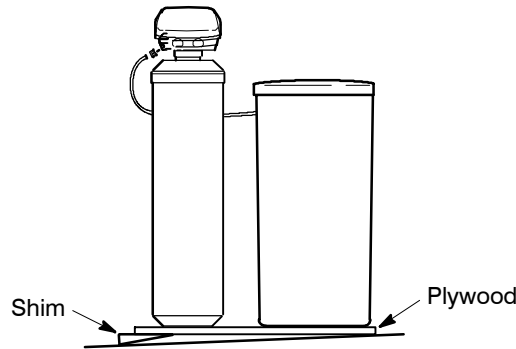

Figure 6 (if needed for leveling)
1. Move the water softener into desired location. Set it on a level surface. If needed, place the water softener on a section of plywood, a minimum of 3/4" thick. Then, shim under the plywood to level the water softener, see Figure 6.